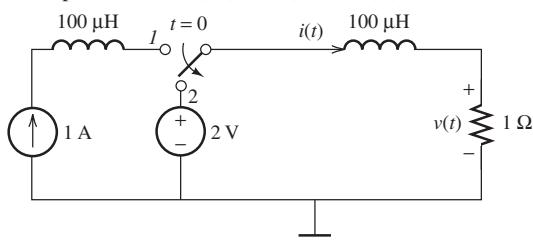

FIGURE P5.29 Circuit for Problem 5.29.
- 5.29 (A)** Consider the circuit shown in Figure P5.29. The switch goes from 1 to 2 at $t = 0$ after connecting to 1 for a long time period. Find $i(0^+)$, $v(0^+)$, and $v(\infty)$.